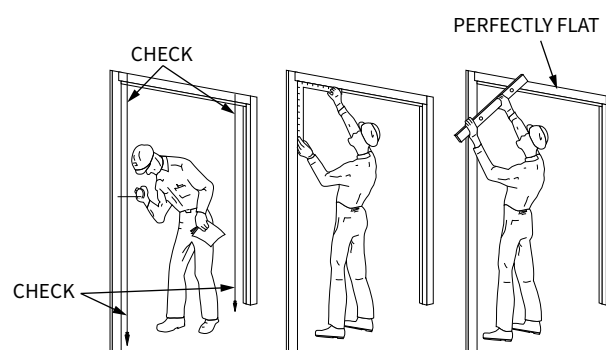

Figure 6: Checking Plumb and Square
- 3 Check plumb and square. Shim if necessary (Figure 6). Header and side frames must be on same plane. Make sure operator end is not sagging.